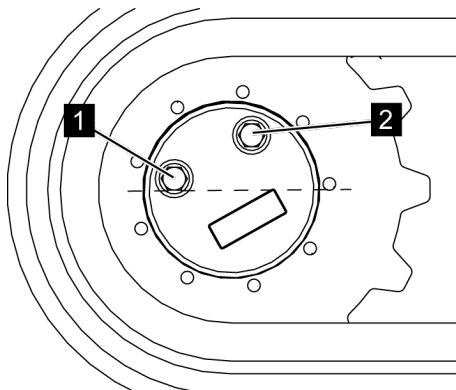

Fig. 218: Unscrewing the screw connections
5. → Unscrew the screw connections (Fig. 218/1 and 2).